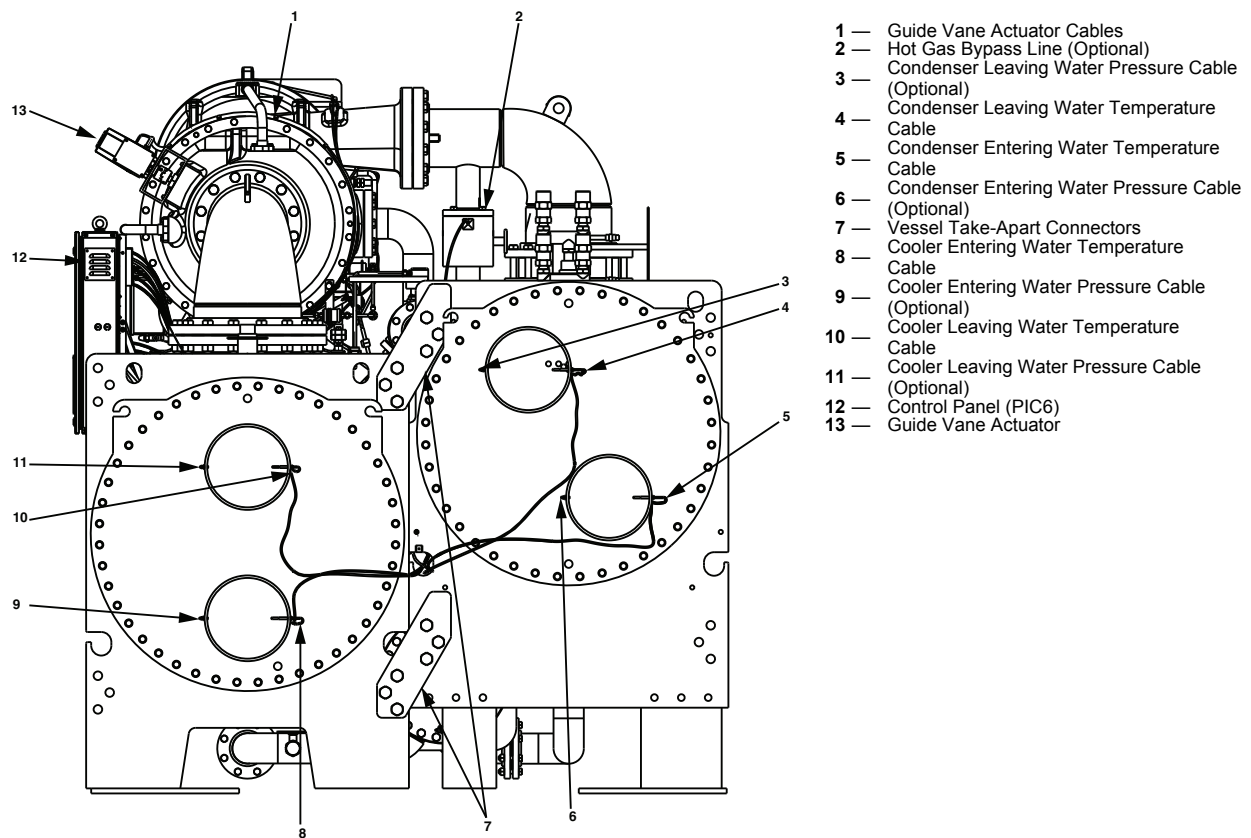

Fig. 18 — Chiller End View
- a. temperature sensor cable at the waterbox (Fig. 18, Item 5)
- b. water-side transducer cables at the transducer (Fig. 18, Item 4)
- i. diffuser actuator cable (Frame 5 compressor and Frame 4 units with split ring diffuser — Fig. 18, Item 2)